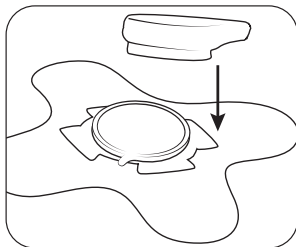

figure 8B: Attach Applicator
- B. While supporting the edges of the cup with your fingers, align the applicator, face down, above the cup and coupling media (Figure 8B).